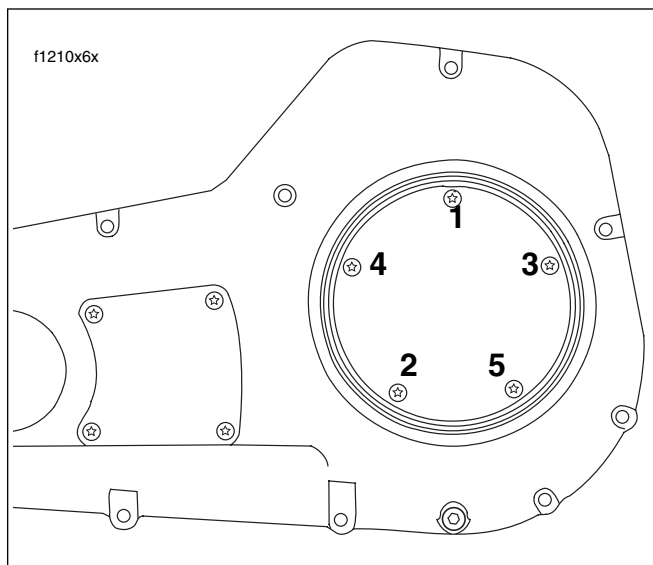

Figure 6-34. Clutch Inspection Cover Torque Sequence
- e. Using a T27 TORX drive head, alternately tighten screws to 84-108 **in-lbs** (10-12 Nm) in the pattern shown in Figure 6-34.